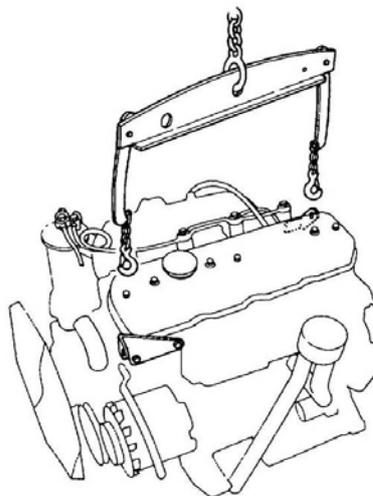

Figure 60 Attaching the Lifting Equipment
- b.** Position the overhead lifting equipment above the engine (Figure 60) and secure the chains to the engine lifting brackets. Take up the weight of the engine with the overhead lifting equipment and remove the engine from the overhaul stand.